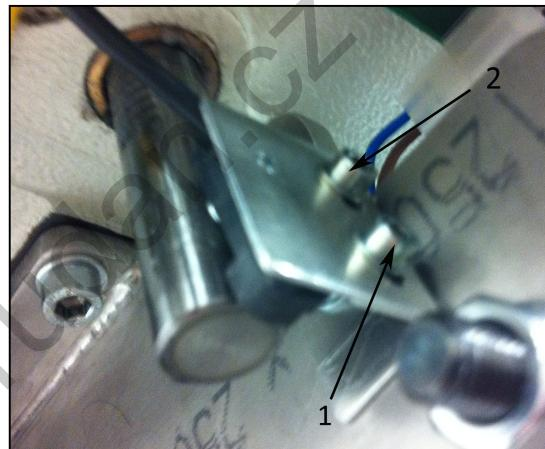

Fig. 33
B. Setting of Y-axis initial point (fig. 33)